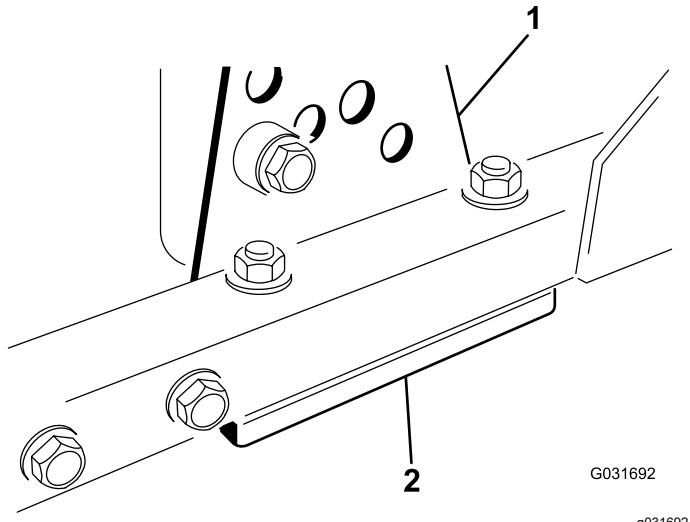

Figure 99
1. Remove the height-of-cut bracket (front, left, or right) from the deck frame (Figure 99).
2. Adjust 1.5 mm (0.060 inch) shims and/or 0.7 mm (0.030 inch) shim between the deck frame and bracket to achieve the desired height setting (Figure 99).